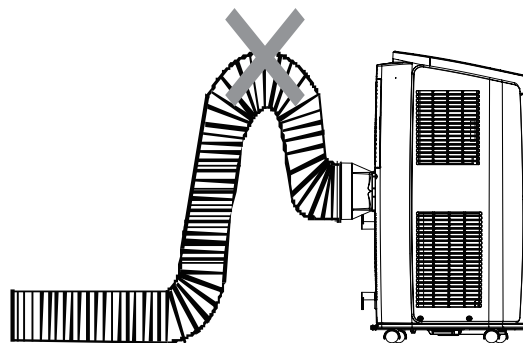

Fig.16
- Wrong installation is shown in following figure (If the pipe is bent too much, it would easily cause malfunction). (As shown in Fig.16)